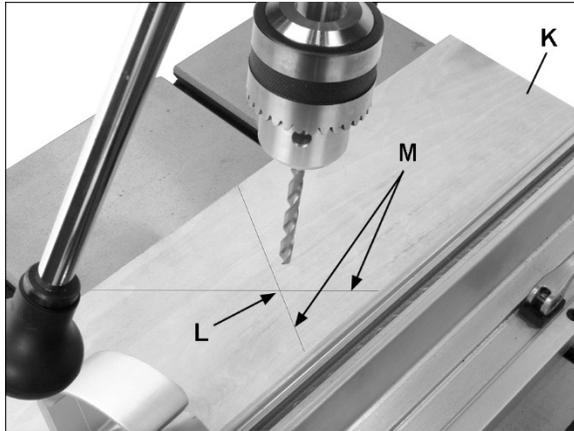

Figure 8-10
- Place board (K, Figure 8-10) flat on table. Do not allow board to move from this position; use clamps if needed. Bring the bit down until it leaves a slight perforation in the board; then raise it back up.
- Adjust the other laser assembly in the same manner until the laser lines form cross hairs exactly over perforation in board, as shown in Figure 8-10.